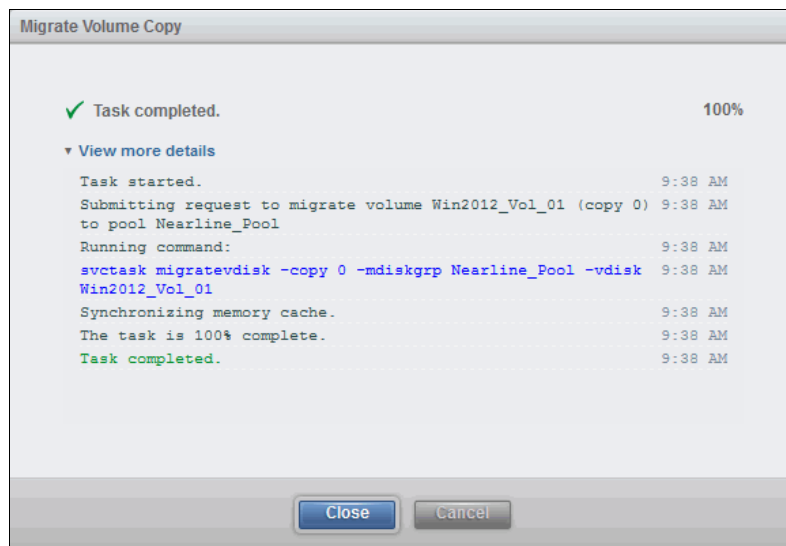

Figure 8-51 Migrate Volume Copy task progress
4. The volume migration starts, as shown in Figure 8-51. Click **Close** to return to the Volumes pane.